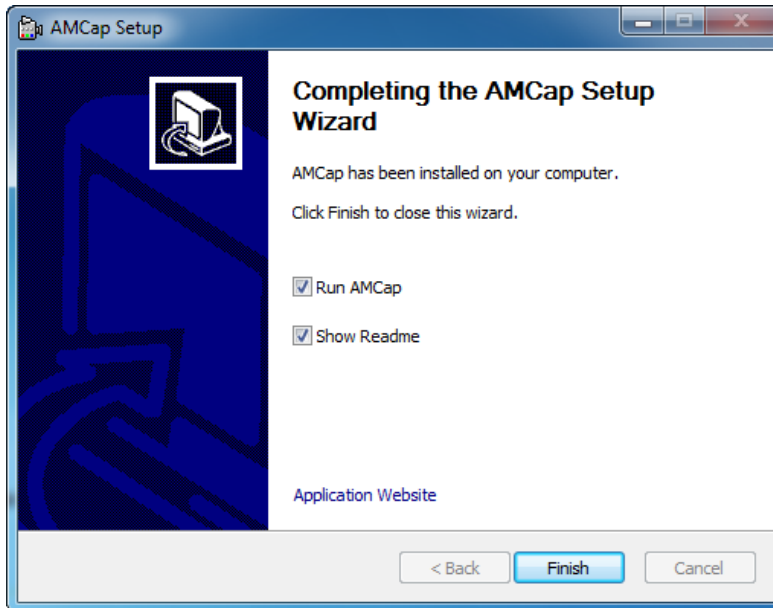

Figure 5-49: AMCap Driver Installation Complete
Step 9: When the driver installation is complete, the screen in Figure 5-49 appears.